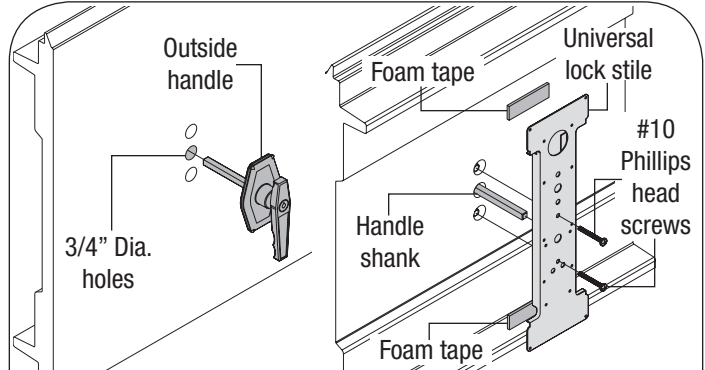
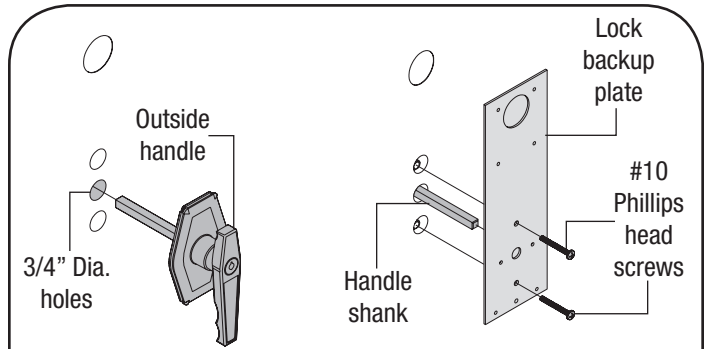

FIG. 5A
FIG. 5B
9800/9700/8300/8500/8700/5120/5145/9100/9405/9600 & WOOD DOORS, (SEE FIG. 5A & FIG. 5B): Align the outside handle assembly with the handle pointing towards the floor and insert the assembly through the previously drilled 3/4" diameter holes in the section. With the outside lock placed in the section, place the center lock stile over the shank of the outside lock handle, secure the center lock stile with foam tape (8300/8500/8700/9800/9700 & Wood doors will use the lock backup plate with no foam tape). Secure the outside lock handle to the section by placing the (2) #10 phillips head machine screws through the lock stile into the lock section.